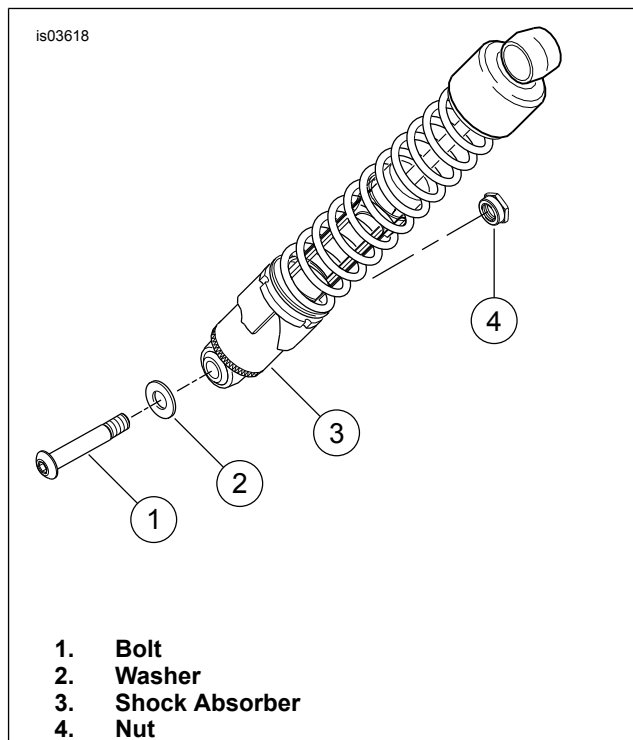
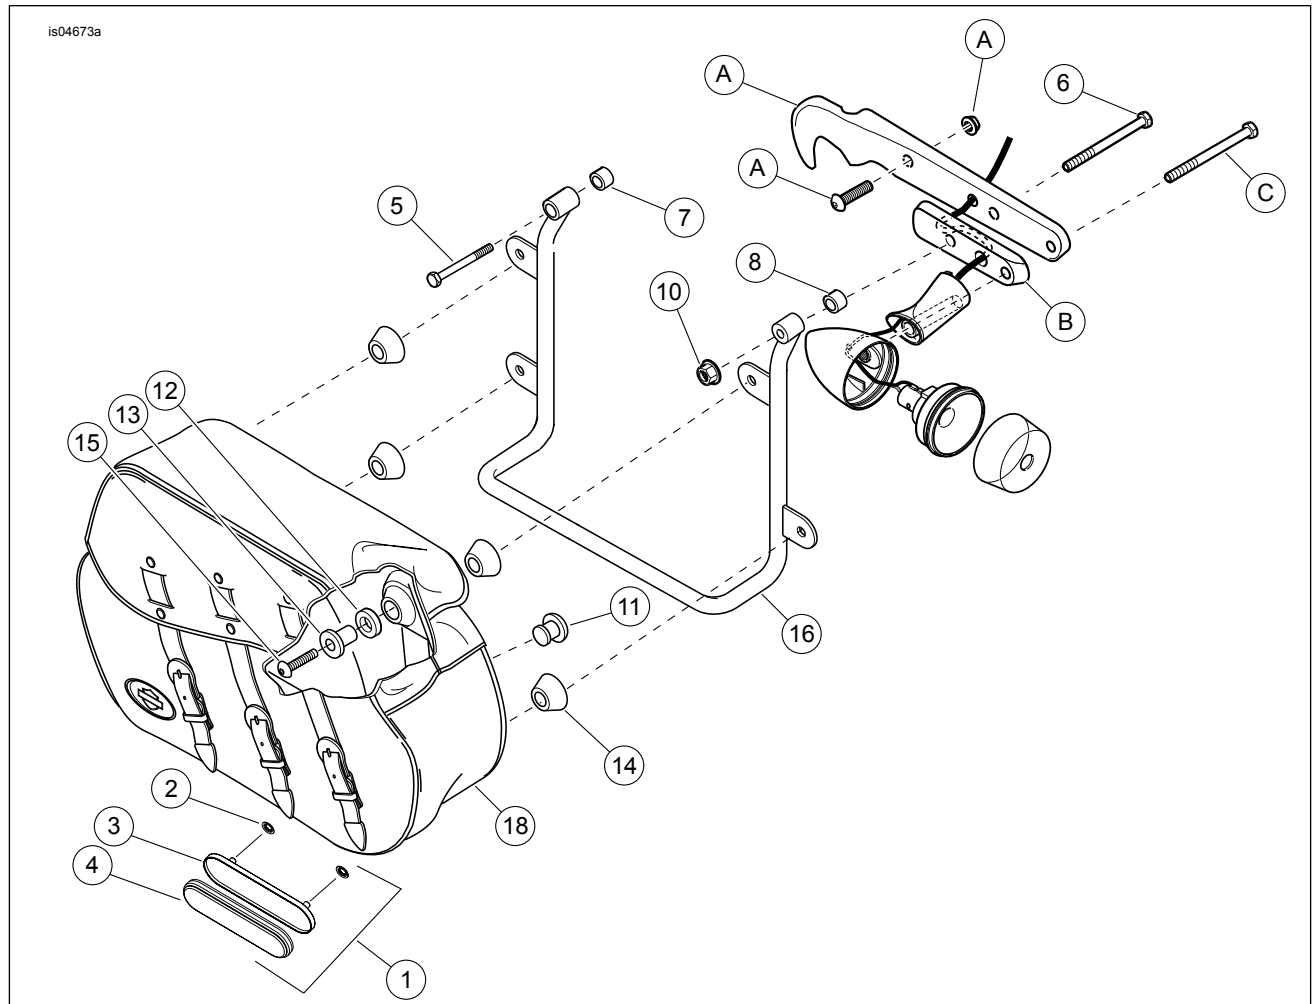

Figure 1. Rear Shock Absorber - Right Side Shown
Figure 3. Service Parts: Leather Saddlebag Kit
See Figure 3 and Table 1.
3. See Figure 1. Disconnect the rear shock absorbers from the swing arm by removing bolt (1), washer (2) and nut (4) from the shock absorber (3). Repeat on opposite side of the motorcycle.
1. See Figure 3. Remove the rear shock absorber bolt (Figure 1, Item 1). Position the 0.531 x 0.75 x 0.25 inch spacer (7) and the front saddlebag bracket attachment hole over the rear shock absorber bolt location. Secure with the 1/2-13 x 3.75 inch screw (5).
2. See Figure 3. Position the 0.325 x 0.75 x 0.25 inch spacer (8) and the rear saddlebag attachment hole over the second hole on the rear of the fender, fender support cover, and relocation pad. From the underside of the fender, insert a 5/16-18 x 3.00 inch screw (6) and secure with locknut (10). Tighten locknut (10) to 32.5–36.6 N·m (24–27 ft-lbs).
3. Tighten the front screw (5) to 28.5–36.6 N·m (21–27 ft-lbs).
4. See Figure 3. Assemble an isolator washer (12) onto an isolator bushing (13). Place a screw (15) through the bushing.
6. See Figure 3. Push a saddlebag isolator (14) over bushing with cone shape toward saddlebag.
7. Place saddlebag in position on bracket and insert the new screw (15) into the bracket. Do not tighten.
11. See Figure 1. Attach rear shock absorber to swingarm by installing bolt (1), washer (2) and nut (4). Tighten bolt to 61.1–67.9 N·m (45–50 ft-lbs). Repeat step on opposite side of motorcycle.
1. See Figure 3. Measure approximately 1-1/2 in. (38 mm) from the bottom edge of the saddlebag. Orient the reflector horizontally and carefully center the reflector mount between the straps of bags with straps or locate it at the rearward portion of bags without straps. Mark hole location.
3. Install reflector mount (3) on saddlebag using two pushnuts (2).
4. Remove adhesive backing from reflector (4) and install on mount.